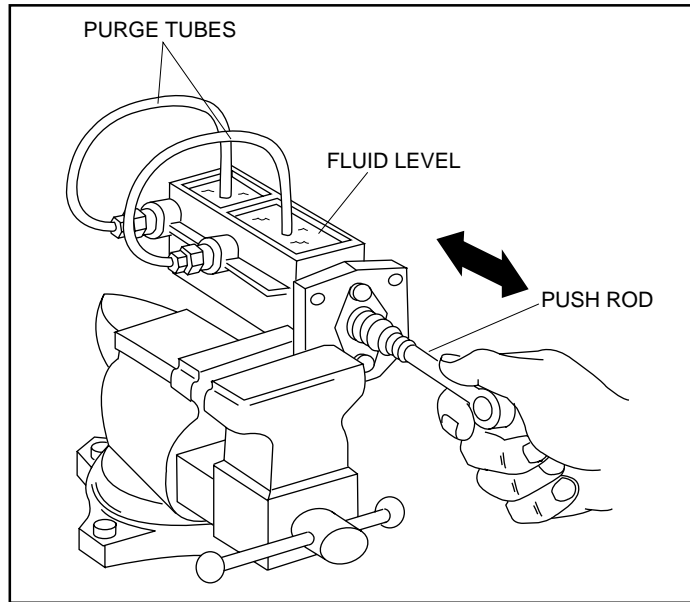

FIGURE 4
2. Route two shortened brake lines (purge tubes) from the outlet connections into the fluid reservoirs below the normal fluid level (Figure 4). These purge tubes should contain check valves unless the port(s) they are connected to contain check valves.